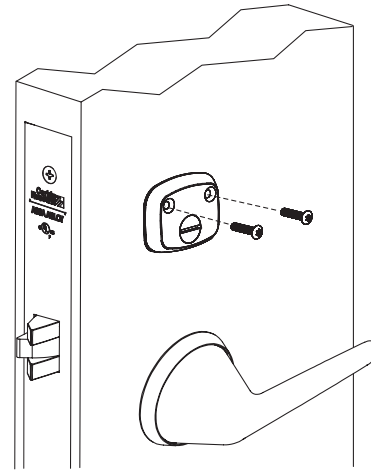

Figure 27
1. Install coin-turn using two surface mount screws. (Figure 27)